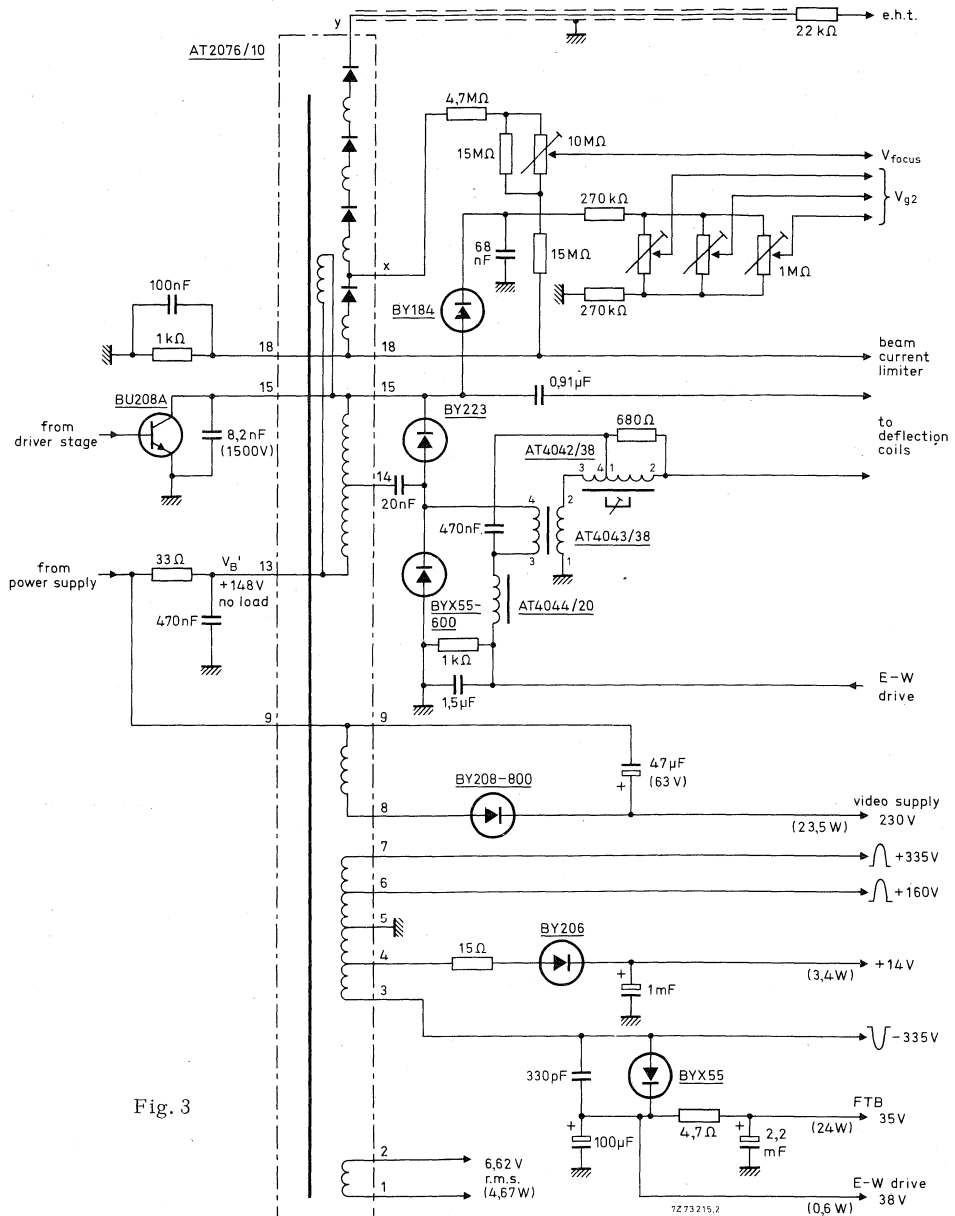

Fig. 3
ELECTRICAL DATA (measured in circuit of Fig. 3)
- according to circuit diagram of Fig. 3.